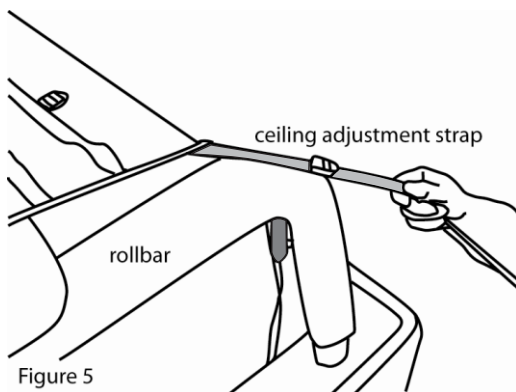

Figure 5
Step 9. Locate the ceiling adjustment straps (at rear corners on ceiling panel). Gently pull the strap over the rollbar, and around the seatbelt stud (toward the inside) and back up to the strap adjustment buckle. Tighten snug, and perform same procedure on the other side. Check top for evenness from side to side. See Figures 5, 6, 7, & 8.